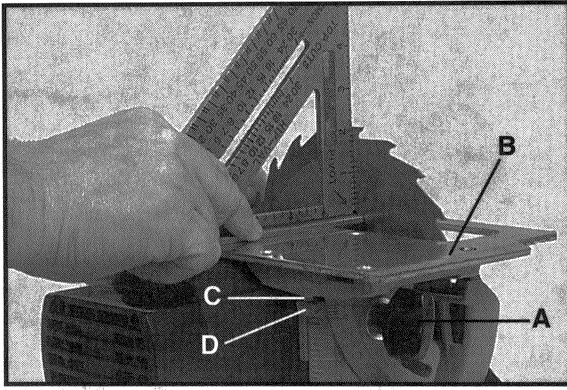

Fig. 6
3. Turn the saw over and make sure the handle rests on a rigid support. Loosen bevel adjusting knob (A) Fig. 6, and position the base (B) so the stop screw (C) contacts the stop (D).
4. Retract the blade guard and with a square, check to see if the blade is at 90 degrees to the base, as shown in Fig. 6. If the blade is not at 90 degrees to the base, turn the stop screw (C) in or out until you are certain the blade is at 90 degrees to the base when the stop screw (C) contacts the stop (D) Fig. 6.